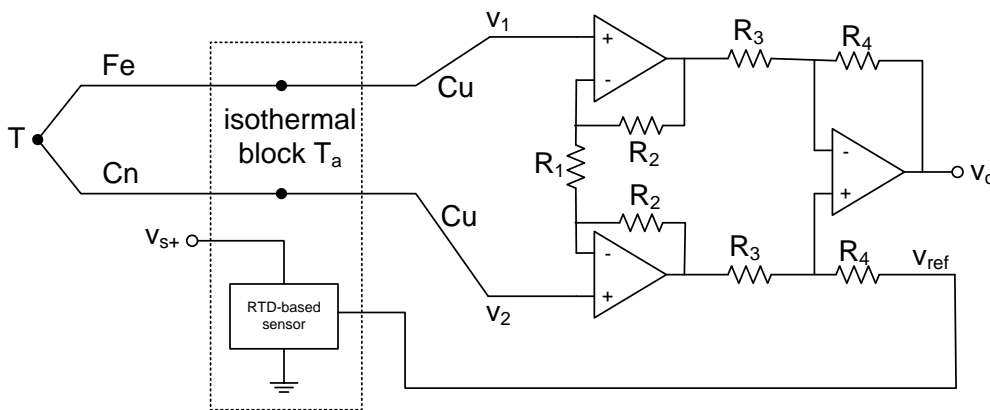

Figure 5: Compensation with a RTD-based sensor and instrumentation amplifier.
The thermocouple in Figure 5 contains a reference junction compensation based on a RTD temperature sensor. The output voltage of this sensor ( $v_{ref}$ ) is given by the following transfer function:  $v_{ref} = 10mV/^{\circ}C \cdot T_a$  with  $T_a$  the environmental temperature at the reference junction. The output of the reference temperature sensor is connected to the reference input of the instrumentation amplifier. It holds for this instrumentation amplifier:
- (a) There are three important laws that you can use when analysing thermocouples, namely the law of the homogeneous circuits, the law of intermediate metals, and the law of intermediate temperatures. Show using these laws that the voltage across the thermocouple shown in Figure 5 is equal to: